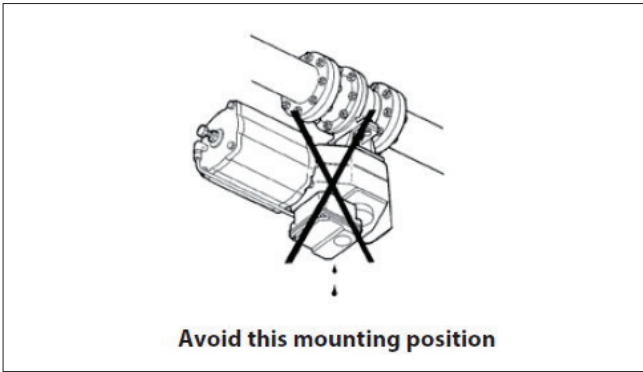

Figure 4. Avoid this mounting position
4. It is not recommended to install the valve with the stem on the underneath side because dirt in the pipeline may then enter the body cavity and potentially damage the stem packing (see Figure 4).
Install the valve in the pipeline so that the shaft is horizontal if possible. However, Valmet does not recommend installing the valve with the actuator on the underside (Figure 4) because dirt in the pipeline may damage the gland packing.